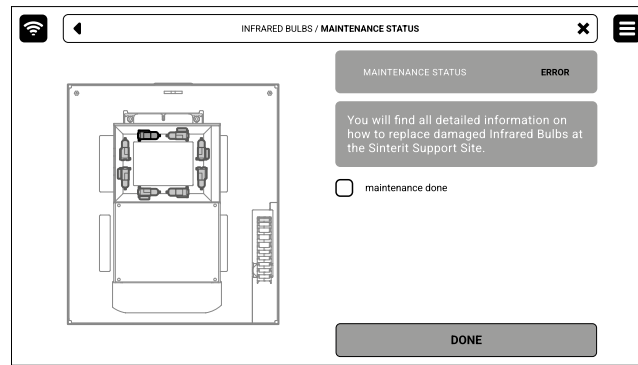

Fig. 13.55 The screen of the maintenance of the Infrared bulbs.
3. Mark the **MAINTENANCE DONE** and then the **DONE** button (fig. 13.55).